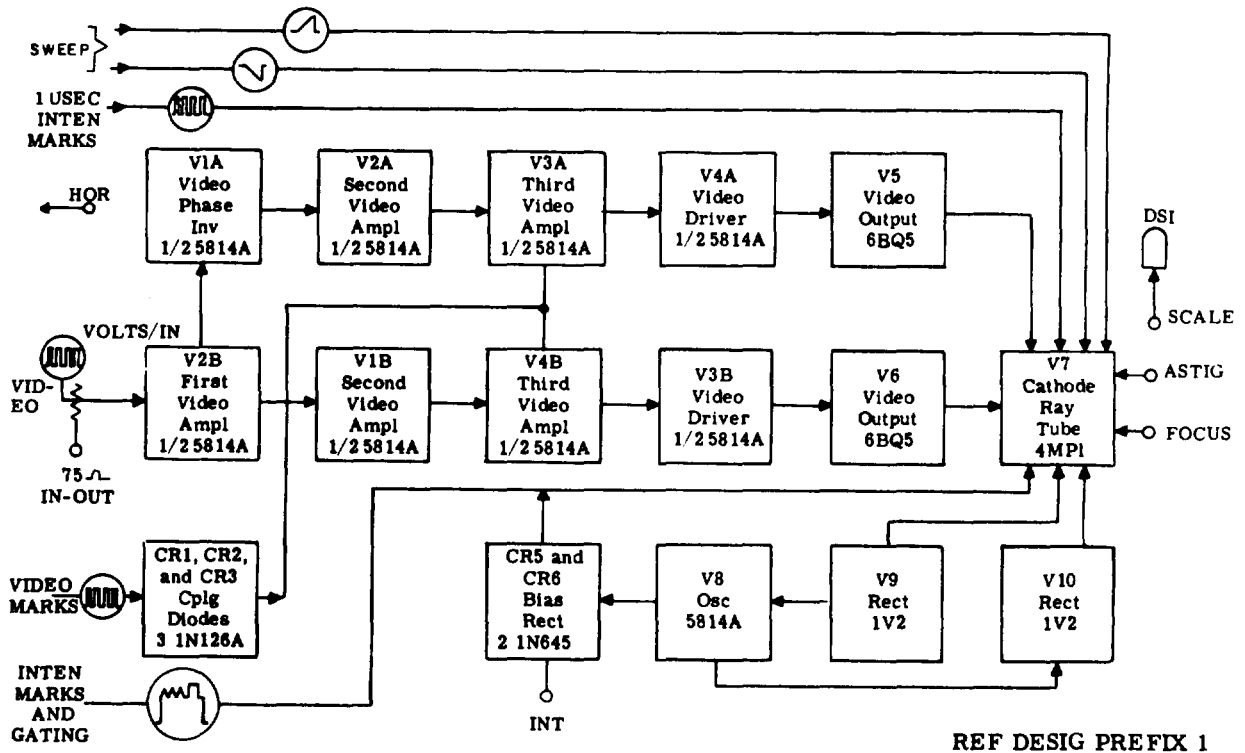

Figure 4-68. Display Unit, Block Diagram
(3) DISPLAY UNIT, - The circuit functions of the Display unit are shown in figure 4-68 and are described below. Display unit waveforms are given in figure 4-69, voltage measurements are given in table 4-11, and resistance readings are given in table 4-12.